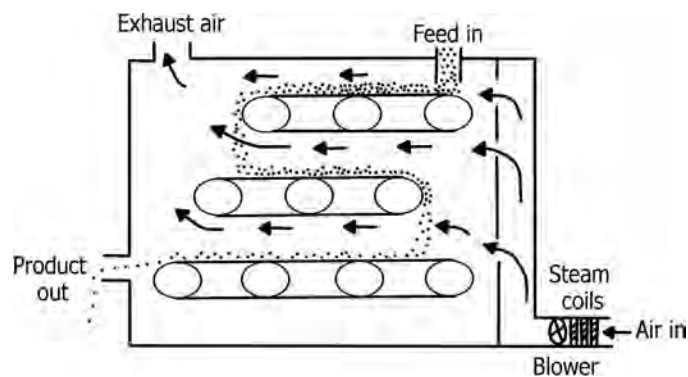

FIGURE 18.28 Three-stage conveyor dryer.
- Figure 18.28 illustrates a three-stage conveyor dryer.